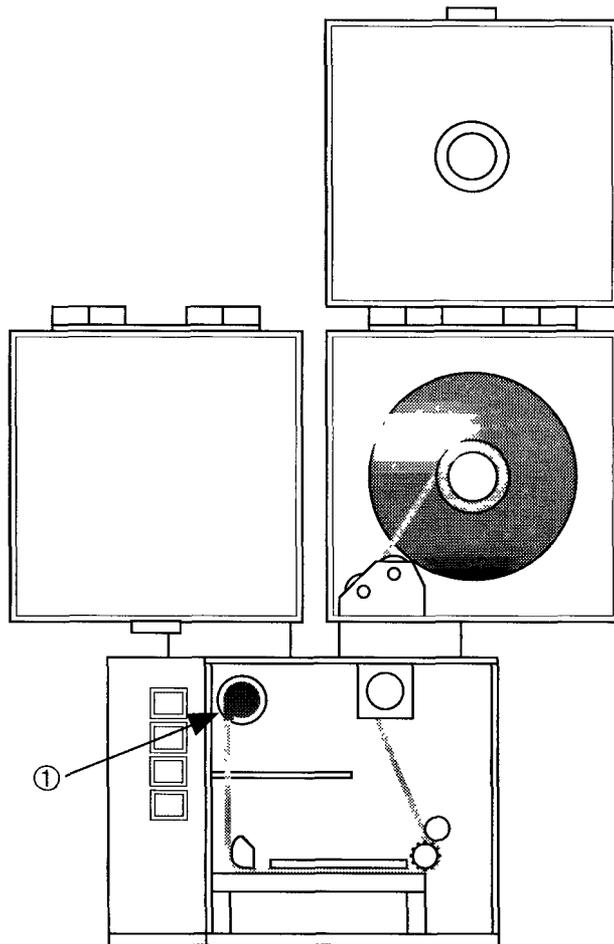

Figure 4. You can use standard rolls of 35mm film in the bulk load camera module.
- Step 3: Thread the film along the same path you follow when loading bulk rolls of film. See Figure 4. Follow the instructions in the section *Loading Film* in this document.